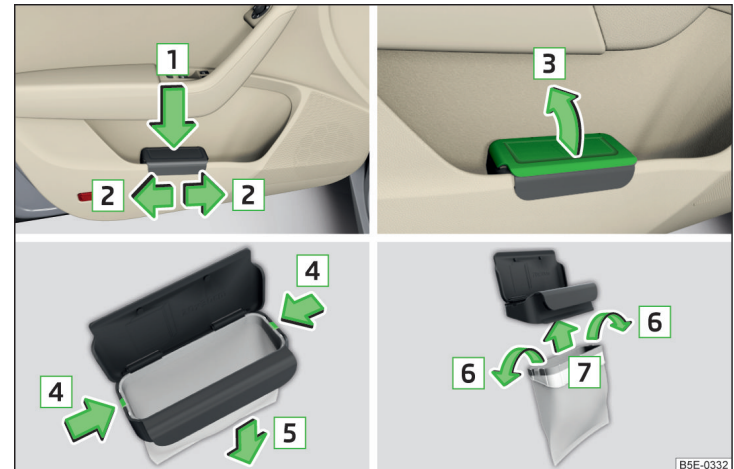

Fig. 91 Waste container: insert and push / open / replace bag
- Push the waste container to the back in the direction of the arrow **1** » Fig. 91.
- » Fig. 91.
- Remove the cover in the direction of arrow **3** » Fig. 91.
- Press the two locking lugs on the frame in the direction of arrow **4** » Fig. 91.